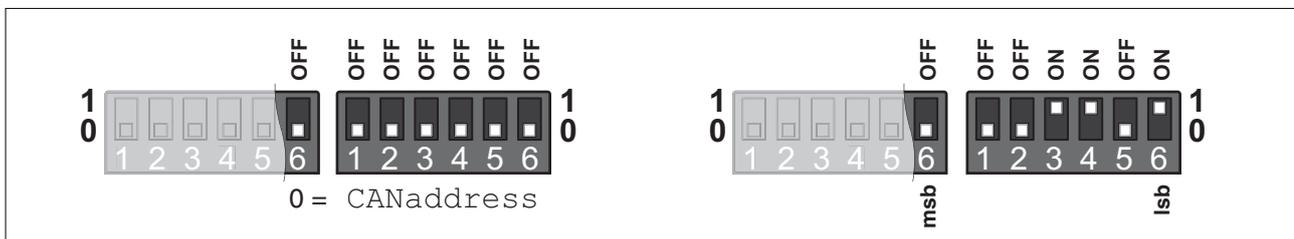

Figure 76: DIP switch device address (example to the right: device address 13 by means of DIP switches)
- ▶ Set the device address via the DIP switches, see Figure 76.